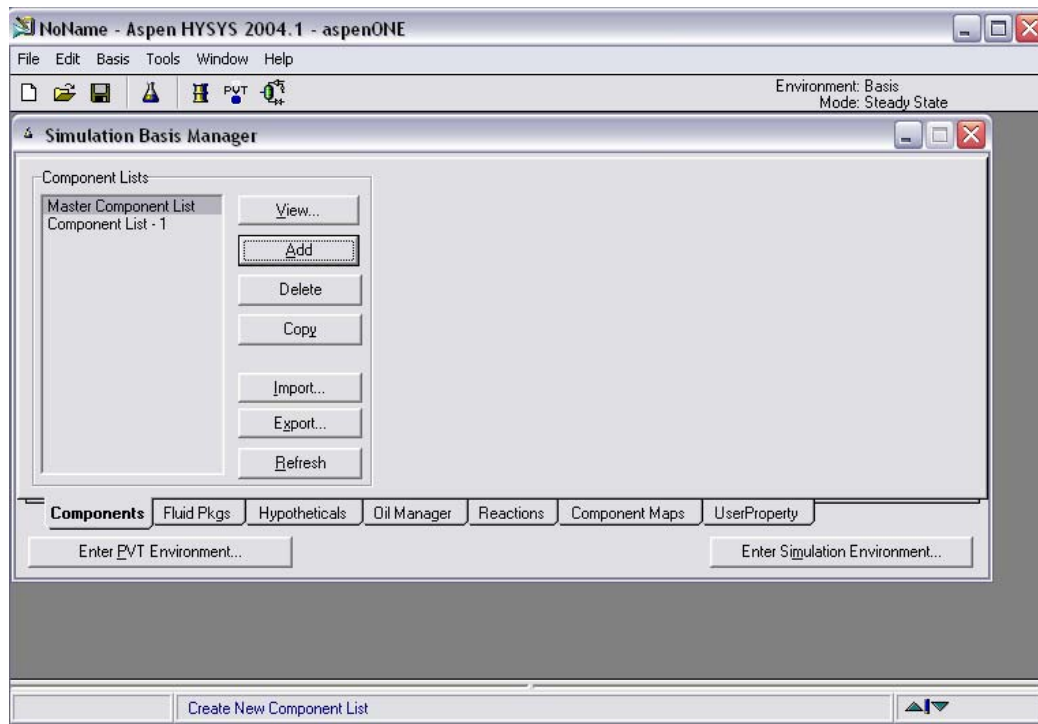

Figure 1-2
1. From the simulation basis manager (Figure 1-2), select the **Fluid Pkgs** tab.